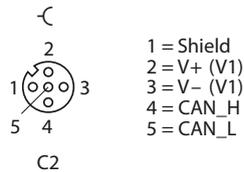
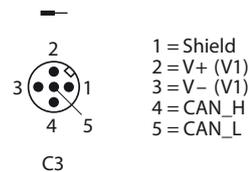

Fig. 13: CANout (C2)
Fig. 14: CANin (C3)
- Connect an CANopen or SAE J1939 device to the CAN network according to **Fig. 13: CANout (C2)** or **Fig. 14: CANin (C3)**.